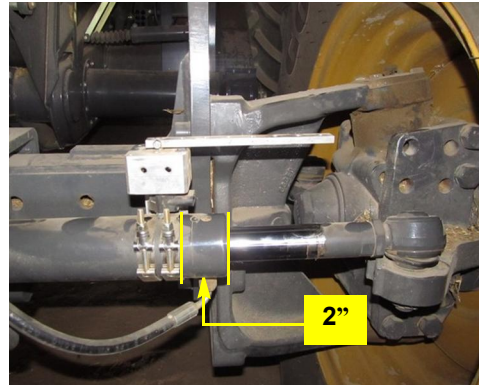

Figure 2b: WAS/clamp assembly installed
- c. Mount the WAS/clamp assembly on the right steering cylinder with (Figure 2b):